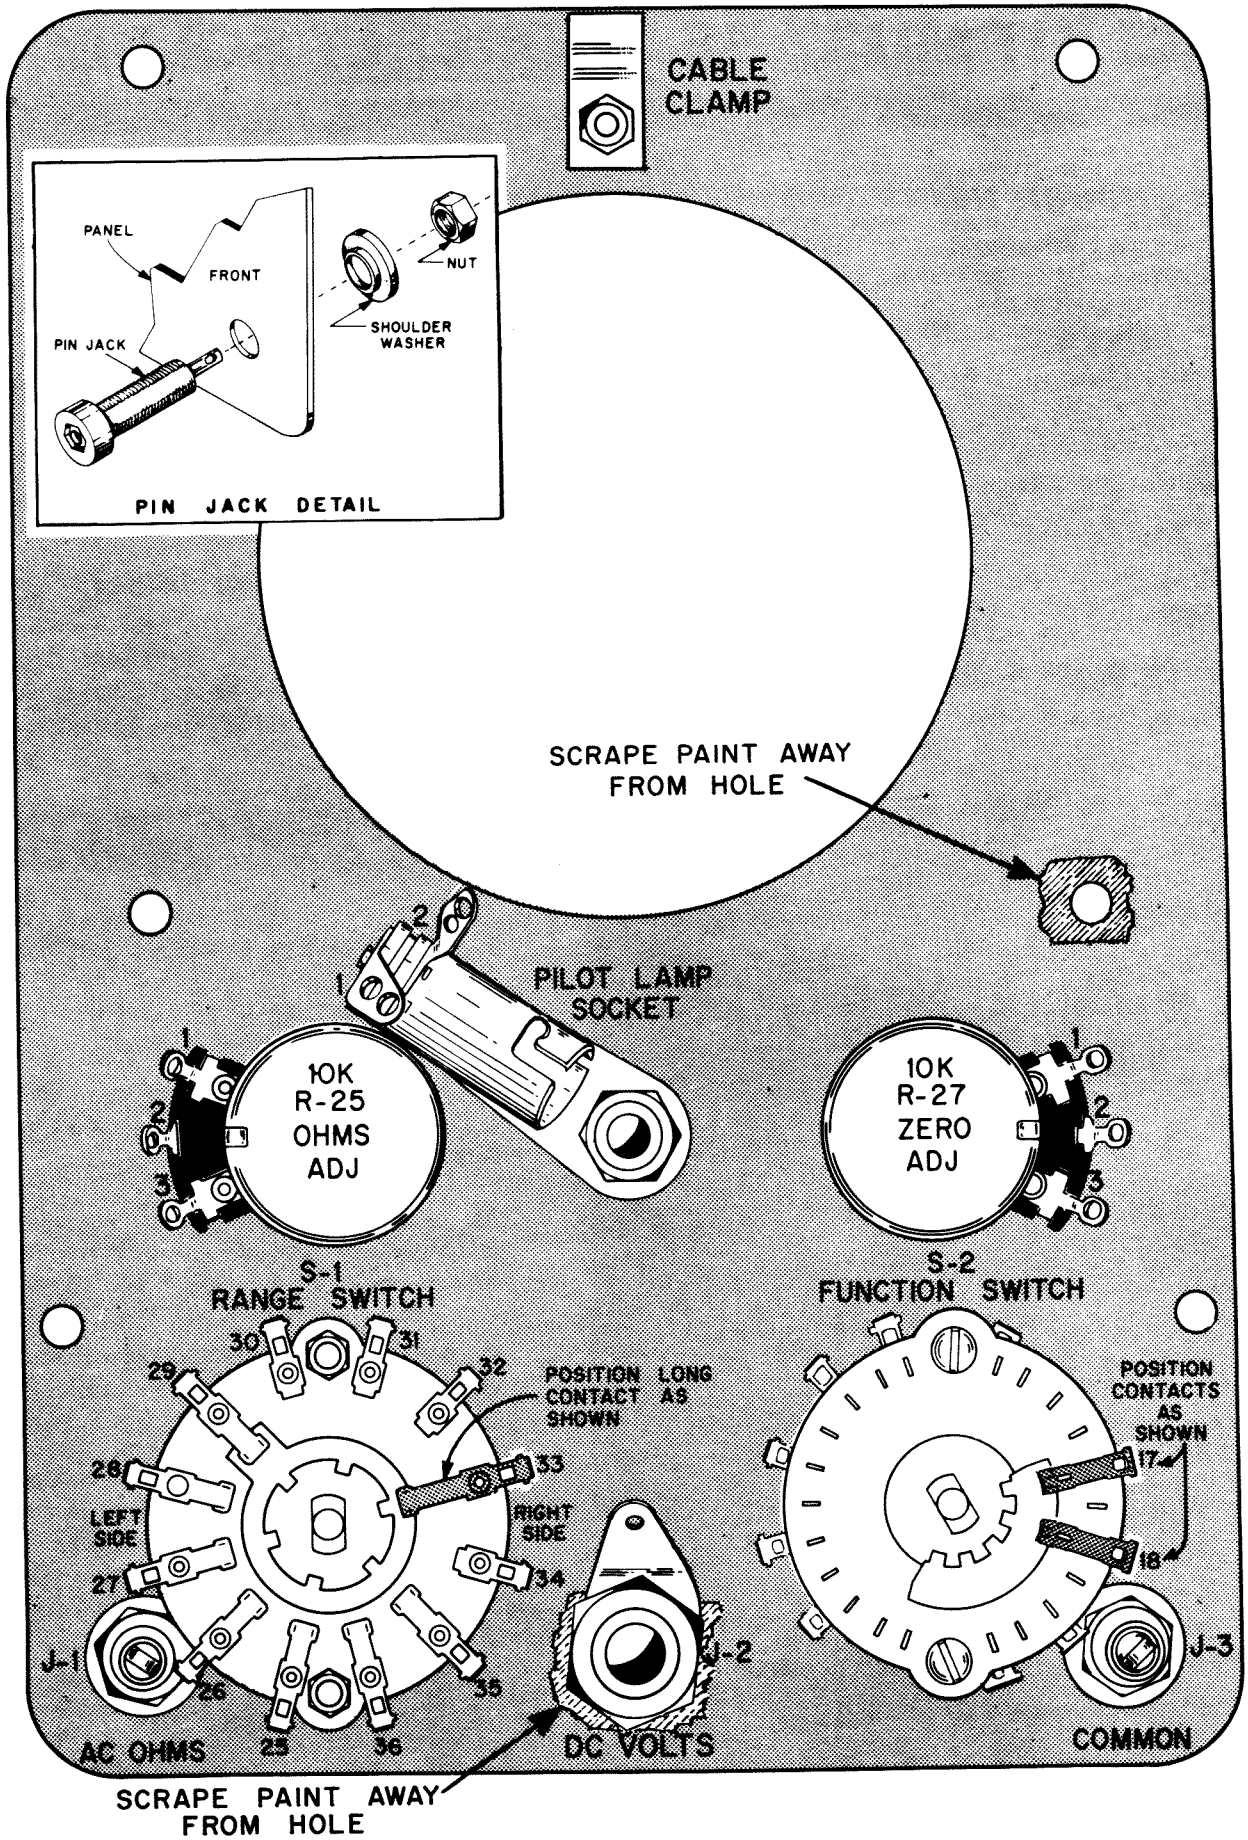

FIGURE 1. MOUNTING THE PARTS ON THE PANEL
SEE FIGURES 1 AND 2
- () Mount the pilot light socket between R-25 and R-27. The bracket must be positioned as shown in Figure 1, but must not touch R-25.
- () Mount J-1, the red pin jack, in the lower left corner of the panel. Use a **shouldered fiber washer** on the **inside of the panel** to insulate the jack from the panel. Now, tighten a nut against the washer. Refer to the pin jack detail in the upper left corner of Figure 1.
- () Mount S-1, the long triple wafer RANGE switch in the hole in the lower left corner of the panel. The long contact on the end wafer must be positioned as shown in Figure 1. The blank space on the wafer near the shaft end must be toward J-1. Use a large nut and a lockwasher on the inside of the panel. Fasten it securely with another large nut. Place a large knob on the shaft. Be sure the line on the knob lines up exactly with the printed dots on the panel. If not, rotate S-1 so the scale on the panel and the line on the knob correspond.